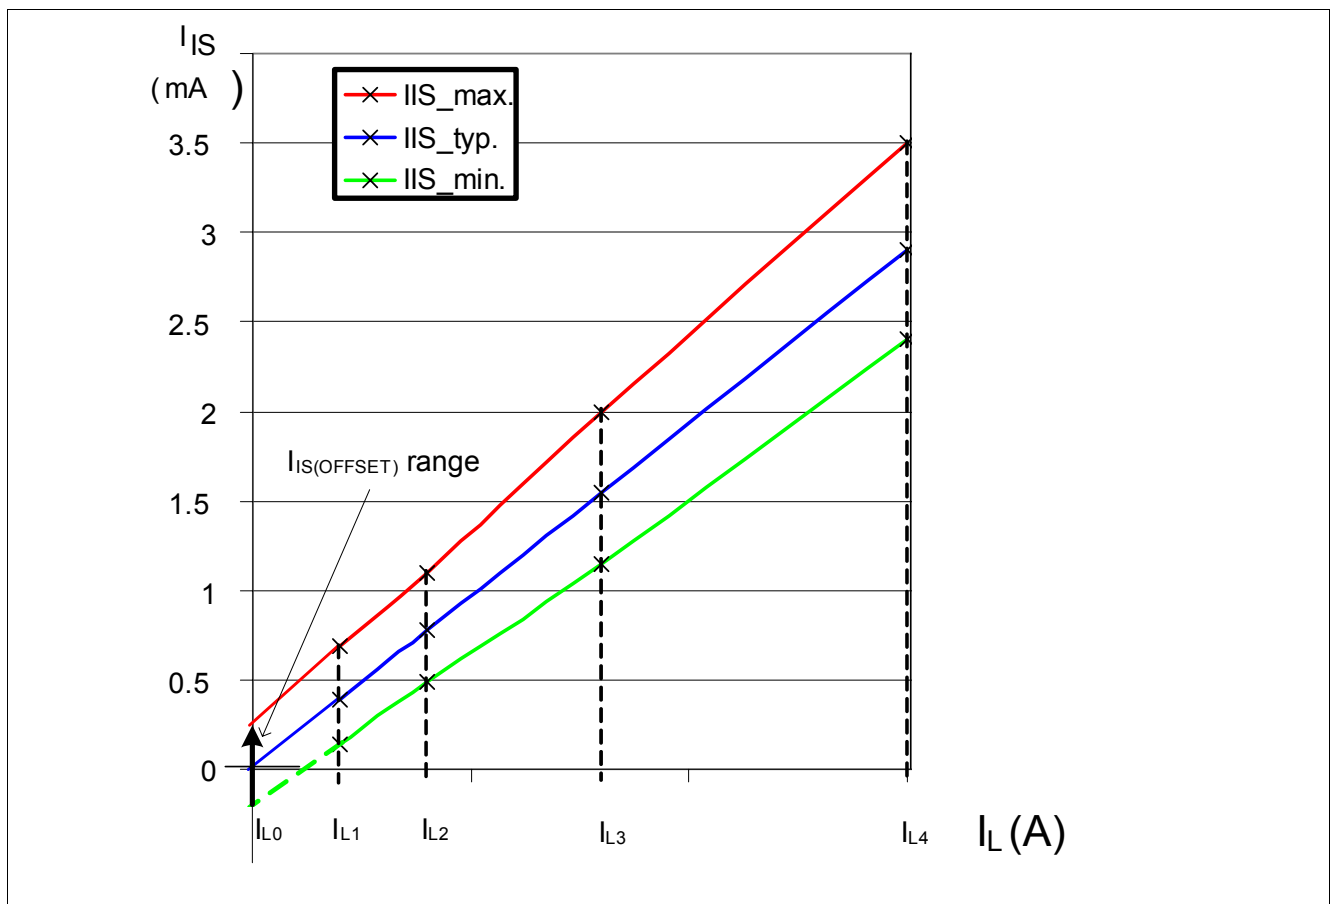
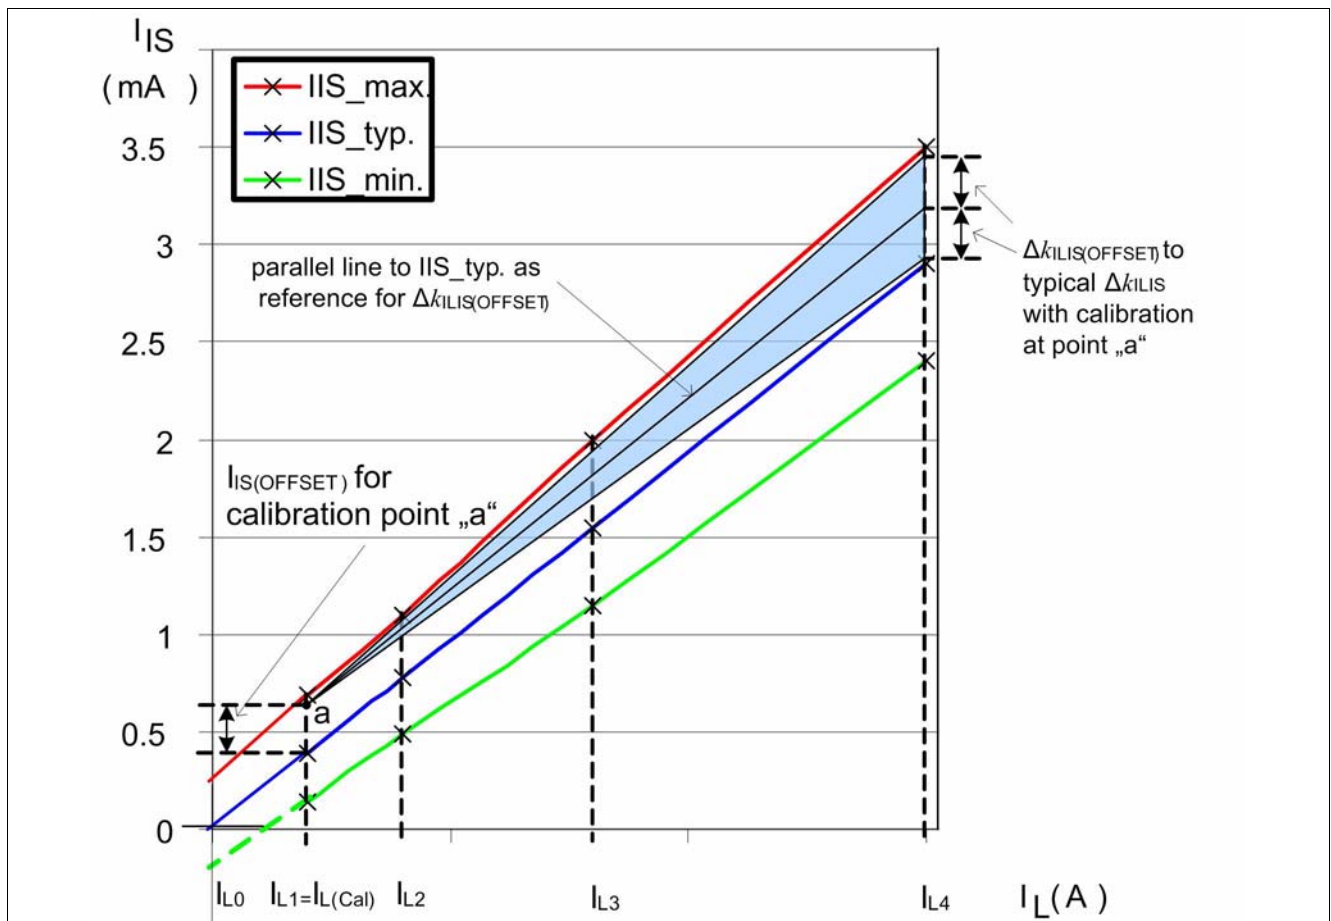

Figure 24 Current Sense for Nominal and Overload Condition
Figure 25 Improved Current Sense Accuracy with One Point Calibration for Nominal and Overload
Figure 24 and Figure 25 show the current sense as function of the load current in the power DMOS. Usually, a pull-down resistor R_{IS} is connected to the current sense pin IS. A typical value is 1kΩ. The blue curve represents the typical sense current, assuming an typical Δk_{ILIS} factor value. The range between the red and green curves shows the sense accuracy the device is able to provide, at a defined current.
In some application, an enhanced accuracy is required around the device nominal current range $I_{L(NOM)}$. To achieve this accuracy requirement, a calibration on the application is possible. With only one calibration point at a given point (e.g. at $I_{L1}=20A$; $T_J=25^\circ C$), the BTS50015-1TAA will still have a limited I_{IS} value spread at different load current and temperature condition. This sense current spreading is described by the parameter $\Delta k_{ILIS(OFFSET)}$ (Equation (5)). Figure 25 shows the behavior of the sense current, assuming one calibration point at $I_L=I_{L(CAL)}$
(point (a) in **Figure 25**) and $T_J = 25^\circ\text{C}$. I_{IS} represents the sense current at load current I_L . $\Delta k_{ILIS(OFFSET)}$ represents the derating of the Δk_{ILIS} over temperature and supply voltage range.